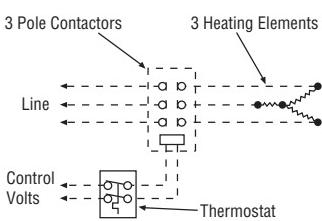

Figure 1
5. Bring the power line wires through the opening in the terminal box. Connect line wire as shown in the diagram. (Figures 1 thru 3)